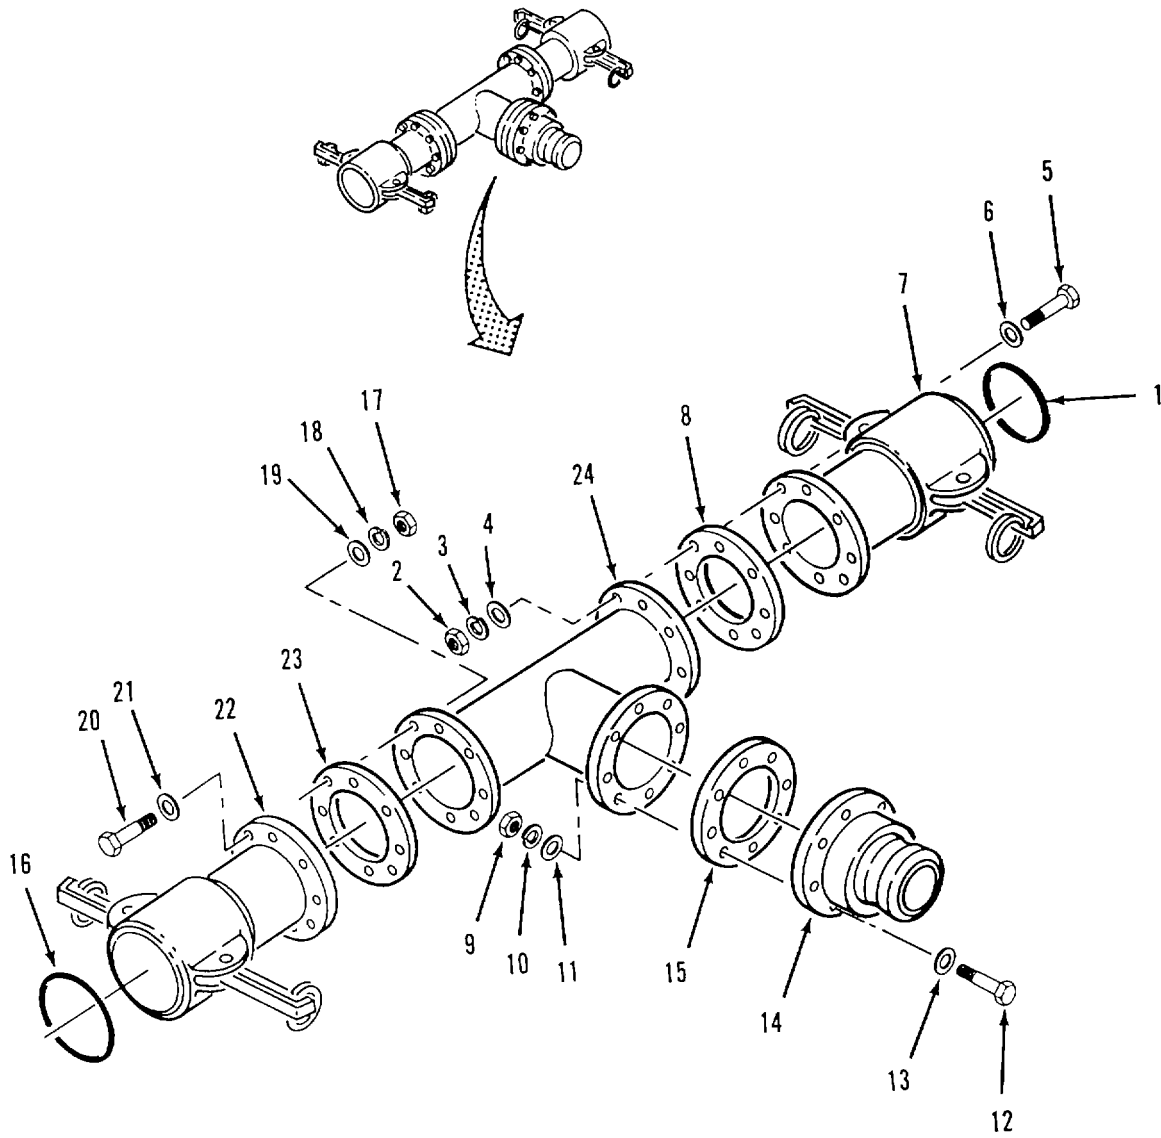

Figure 4-20. Tee Assembly (9112-Y1) Assembly
- (1) Inspect male coupling (14) for cracks.
- (2) Inspect female couplings (7 and 22) for cracks and damaged lock arms.
- (3) Inspect tee (24) for cracks and corrosion,
d. Repair. Replace defective components. Do not reuse sealing components.e. Assembly. Refer to figure 4-20.
- (1) Position gasket (23) and female coupling (22) on tee (24).
- (2) Install eight flat washers (21), screws (20), flat washers (19) lockwashers (18) and nuts (17)